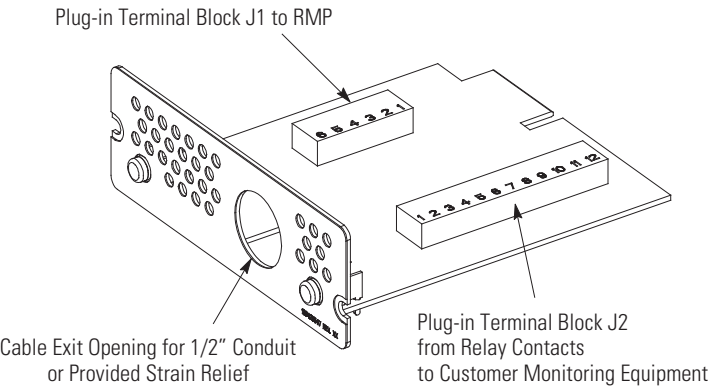

Figure 56. Industrial Relay Card
3. Install wiring from the RMP to the IRC using the cable listed in Table 5 and the provided strain relief bushings in the cable exit openings in the IRC (see Figure 56) and the RMP.
4. Connect the wiring between the RMP and the IRC plug-in terminal blocks using terminations shown in Table 5. See Figure 55 and Figure 56 for plug-in terminal block locations.
The IRC uses normally-open or normally-closed dry relay contacts to indicate the UPS status as listed in Table 6. Figure 56 shows an IRC.
3. Connect wiring between the IRC and the monitoring equipment using terminations shown in Table 6. See Figure 56 for plug-in terminal block locations.